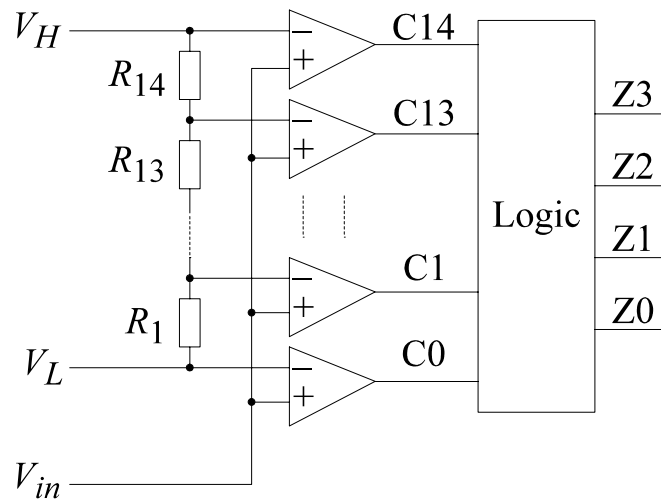

Figure 8
6. *Figure 8* shows the circuit of a 4-bit flash analogue-to-digital converter consisting of 14 identical resistors, 15 comparators and a combinational logic block. The input voltage V_{in} lies in the range ± 0.9 V and the converter is designed to convert V_{in} to a 2's complement value Z where Z is the nearest integer to $(V_{in} \div 0.125$ V). Thus an input voltage of 0.3 V would be converted to the value +2.